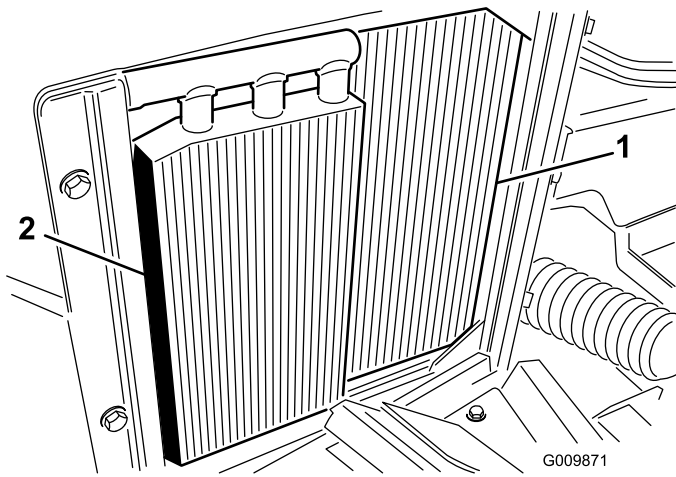

Figure 54
2. Working from the fan side of the radiator, either spray the radiator with a hose or blow it with compressed air (Figure 54).
3. Thoroughly clean the oil cooler (Figure 54) and remove any other debris that may have collected around the components.